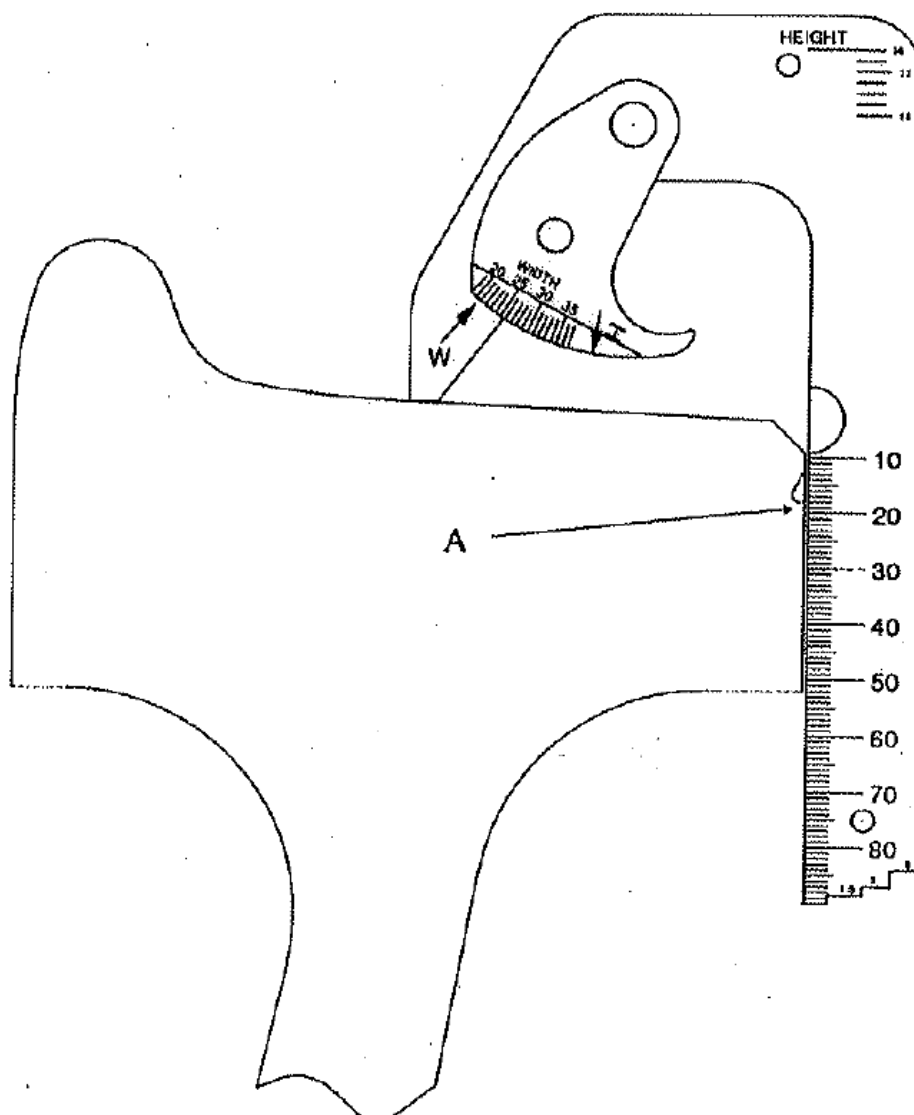

FIG 5. Measuring tread thickness from the condemning groove.
1. Hold the gauge against the rim face, as shown in Fig 5 below, so the arm is touching the wheel tread.